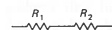

Figure 1.3
1. The resistance of two resistors in series (Fig. 1.3) is